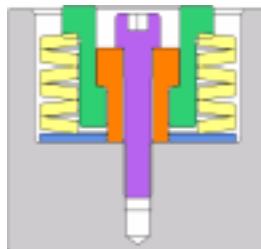

Figure 7-3: Offset Spring Pack
10. For offset systems only, verify the offset spring pack (Figure 7-3) has been installed in the mold. Refer to the assembly drawings located for more information.